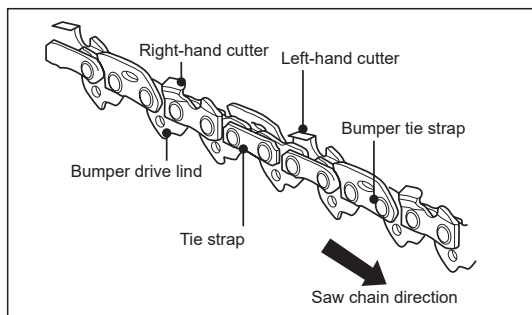

Fig. 15a
- 2). The height difference between the tooth and the ridge is the cutting depth. When sharpening the saw chain (3) you have to consider the following points (Fig. 15a).